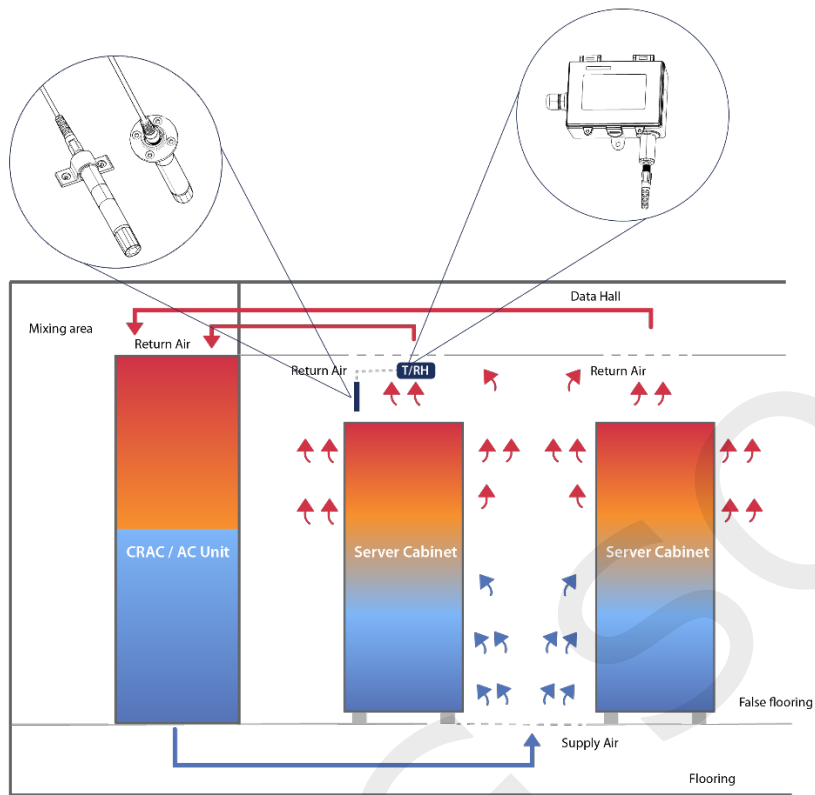

Figure 1: Section
2. Remote probe Temp/RH transmitter comes with two parts, main PCB box and remote probe as shown in Figure 1